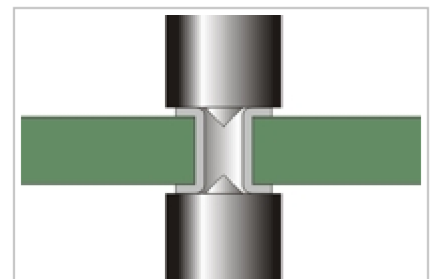

Figure 3: Flatten the eyelet barrel using the flat end of the setting tool.
7. Change the upper Setting Tool so the small cone tip end of the Setting Tool is facing down. Apply firm even pressure to flatten the eyelet barrel. (See Figure 3)